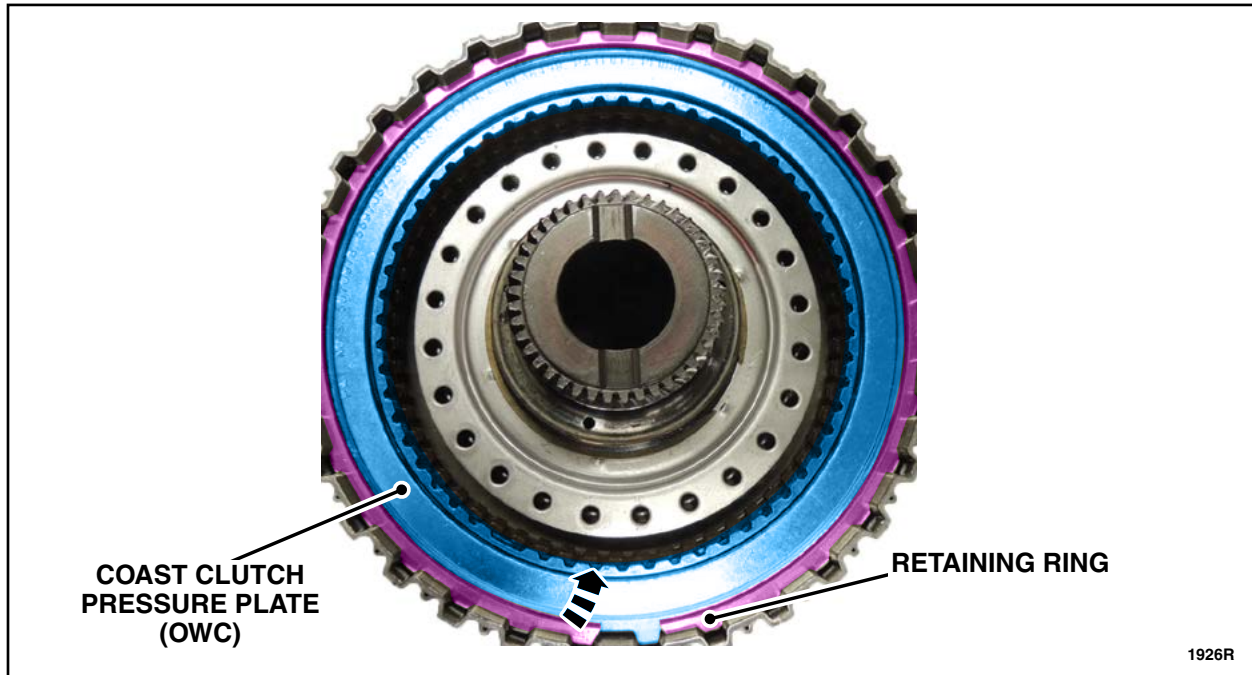

FIGURE 18
See Figure 18.
26. Install the coast clutch pressure plate OWC retaining snap ring. See Figure 18.